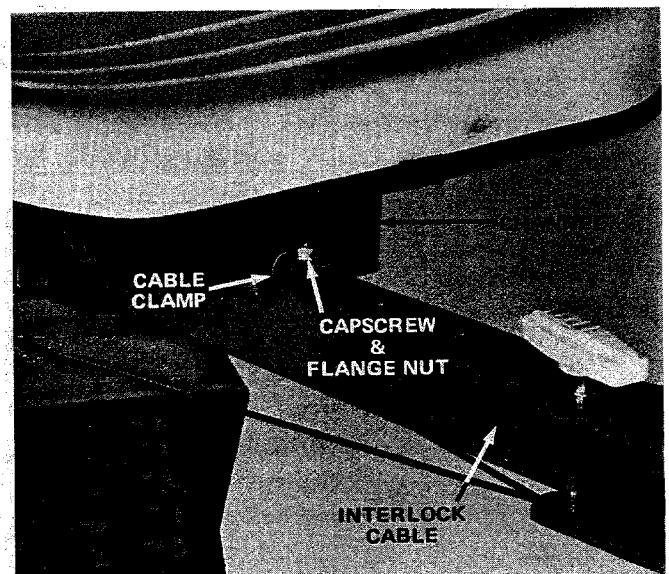

Figure 5
6. Place seat assembly over rear frame assembly, align holes with seat in comfortable operator position, route interlock cable through seat channel and secure seat and cable with capscrews and flange nuts (Fig. 5).